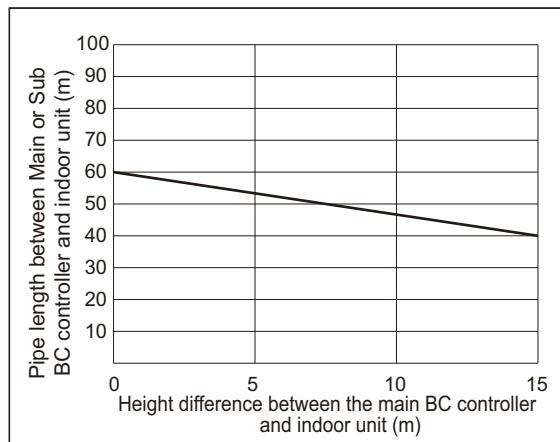

Fig. 2
*2. Details refer to Fig. 2.
*7. When the piping length or the vertical separation exceeds the limit specified in Fig. 2, connect a sub BC to the system.
When using indoor models P/M140 or larger, the restrictions shown in Fig. 2 cannot be exceeded.
- *7. When the piping length or the vertical separation exceeds the limit specified in Fig. 2, connect a sub BC to the system.
The restriction for a system with a sub BC connection is shown in Fig. 3. When a given system configuration falls within the shaded area in Fig. 3, increase the size of the high-pressure pipe and the liquid pipe between the main BC and sub BC by one size. When using P/M32, P/M40, P/M50, P/M100, or P/M125 model of indoor units, increase the size of the liquid branch pipe between the sub BC and indoor unit by one size. When using indoor models P/M140 or larger, the restrictions shown in Fig. 2 cannot be exceeded.